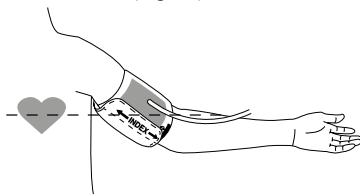

Fig. 10
- g. Lay the arm on the table (palm upwards) so that the cuff is at the same height as the heart. Make sure that the tube is not kinked (Fig. 10).